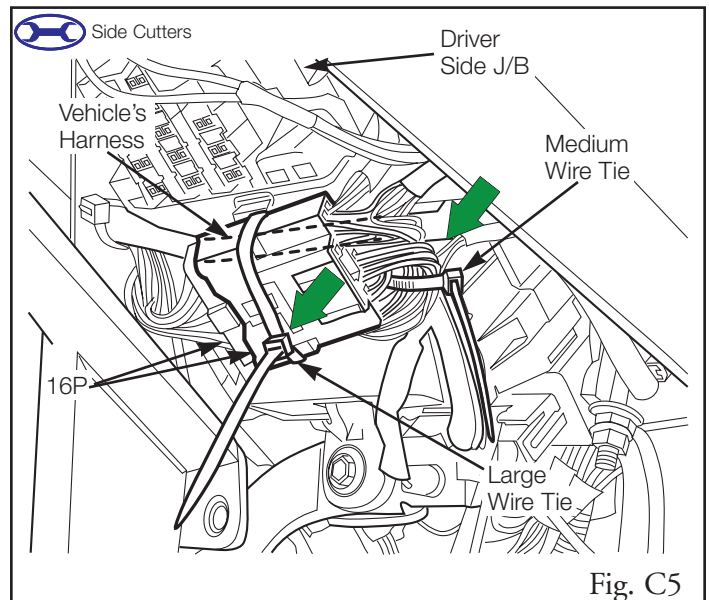

Fig. C5
6. Secure the 16P connectors and the V3 harness to the vehicle's harness as shown. (Fig. C5)